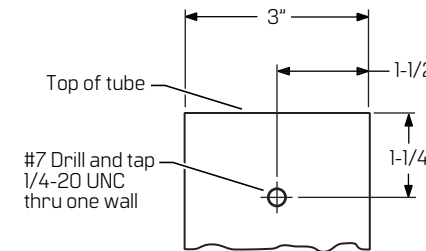

Figure 11 Drilling and tapping set screw hole
- Drill and tap a hole into one of long faces at top end of tube. See **Figure 11**.